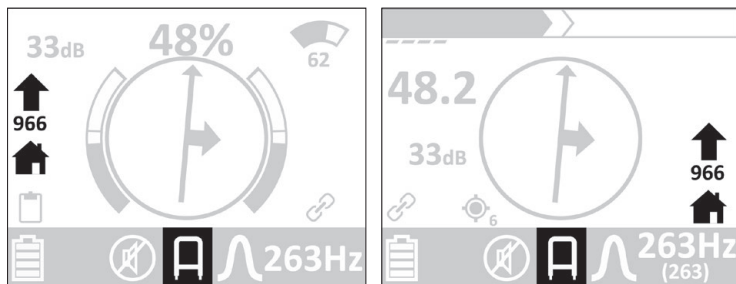
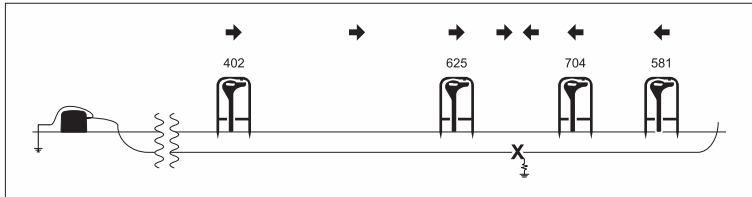

Fig. 32: Receiver display – step-voltage probe connected (*here: cable fault signal 966*)
Fig. 34: Locating a cable fault with a step-voltage probe
When approaching a cable fault, the cable fault signal (numerical value) increases (fig. 32 and fig. 34).
The directional arrow will change direction directly over a cable fault. The cable fault is then located in the centre underneath the step-voltage probe (fig. 34).
- Move the step-voltage probe back and forth to get closer to the cable fault (fig. 34).